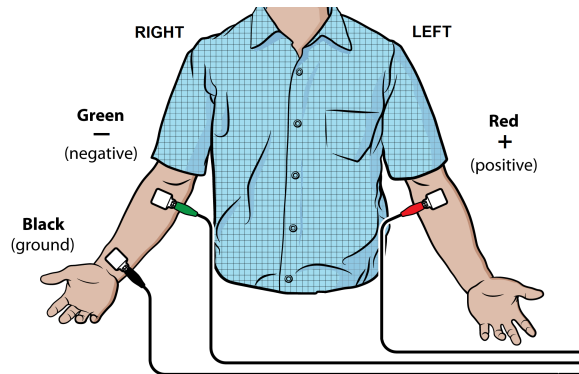

Figure 1
1. Attach three electrode tabs to the subject as shown in Figure 1. Place a single patch on the inside of the right wrist, on the inside of the right upper forearm (distal to the elbow), and on the inside of the left upper forearm (distal to elbow).
2. Connect the sensor clips to the electrode tabs as shown in Figure 1. Have the subject sit in a relaxed position in a chair with their forearms resting on their legs or on the arms of the chair.